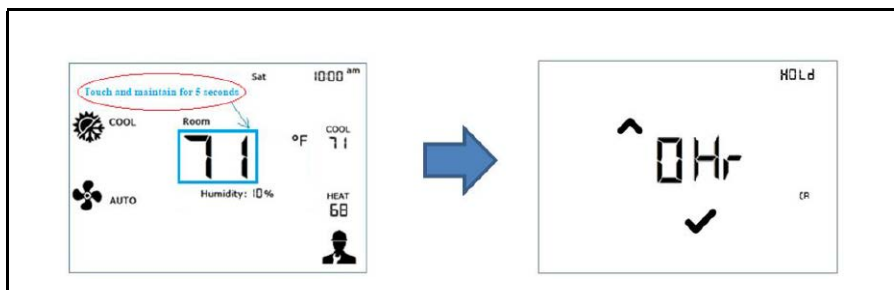

Figure 3-33 - Setting the Hold Function
2. Use the arrows UP and DOWN to set the time of HOLD (*Figure 3-33*).